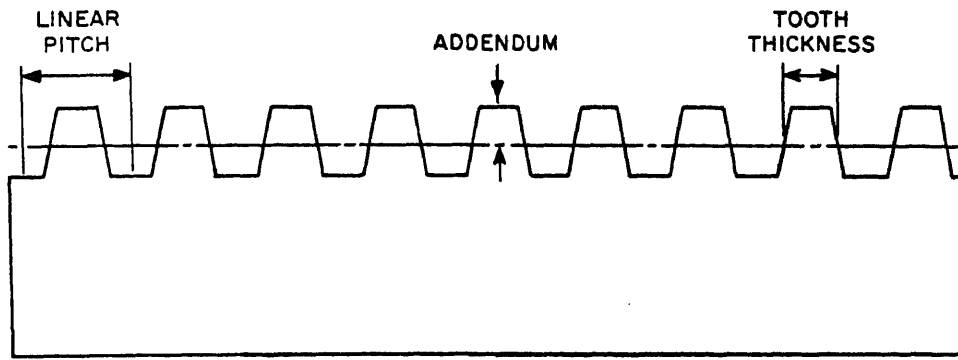

Figure AIII-2.—Linear pitch.
- (3) Figure AIII-2 illustrates linear pitch.